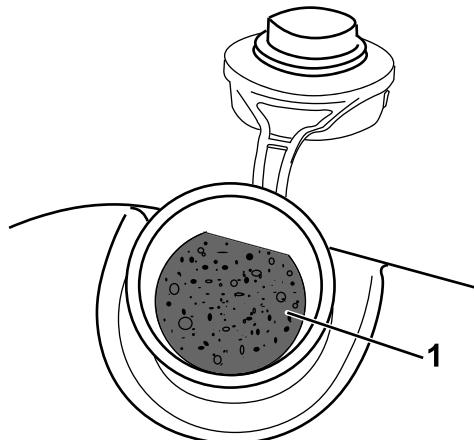

Figure 13
**Important:** This machine is equipped with a premium fuel tank that uses a foam insert to prevent fuel agitation. Do not remove the foam element, because it allows the engine to use all the fuel in the tank (Figure 13).